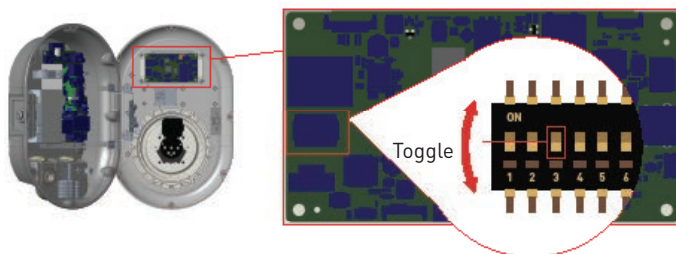

Figure.30
- If you want to enable the WebConfig UI, third position of dipswitch should be in "OFF" position as shown in figure 30.
- If you want to disable the WebConfig UI, third position of dipswitch should be in "ON" position as shown in figure 30.